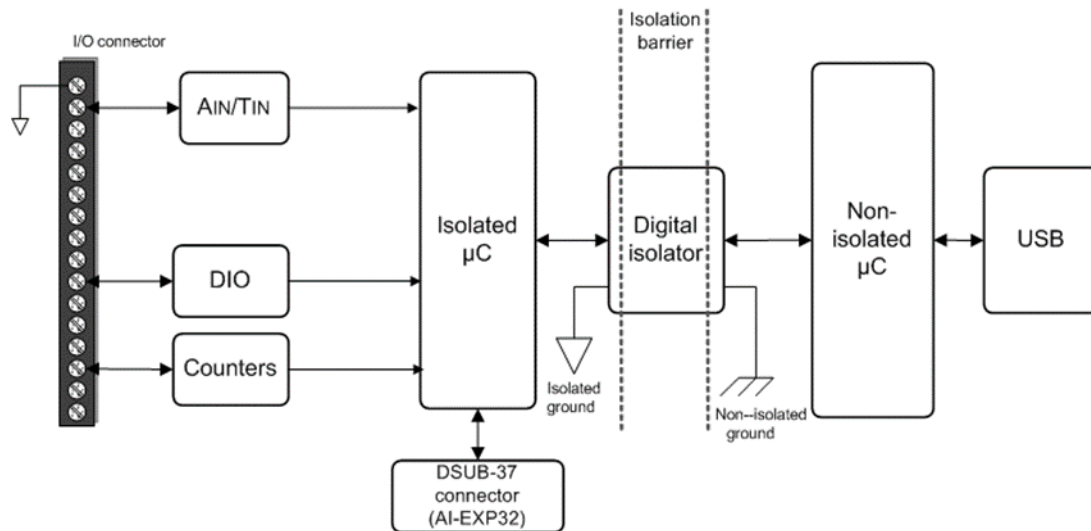

Figure 12. USB-2416 input isolation diagram
- All analog measurements are made relative to the isolated ground. See Figure 12 for details.